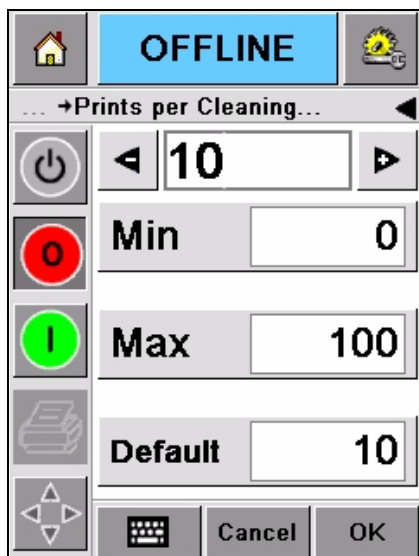

Figure 5-18: Prints per Cleaning Cycle
- 1 Navigate to *Tools > Setup > Printhead* and scroll below to reach the *Prints per Cleaning Cycle*. Enter the required value (Figure 5-18).